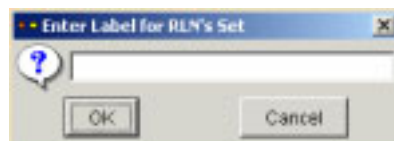

Figure 5.106 Enter Label for RLN's Set Window
20. Click OK. The Enter Label for RLN's Set window is displayed (Figure 5.106)